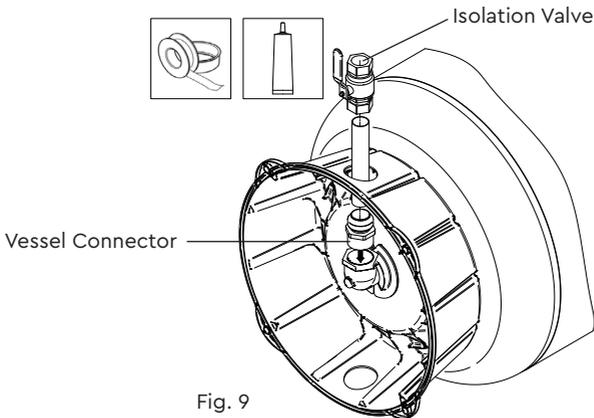

Fig. 9
- b) Once on its side screw the Mainsboost vessel connector provided in the upstream line-in kit into the tank elbow at the base using suitable thread seal such as PTFE tape or liquid thread lock (see Fig. 9).